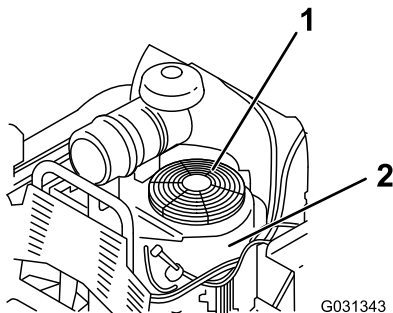

Figure 75
3. Remove the air-intake screen and fan housing (Figure 75).
5. Install the air-intake screen and fan housing (Figure 75).